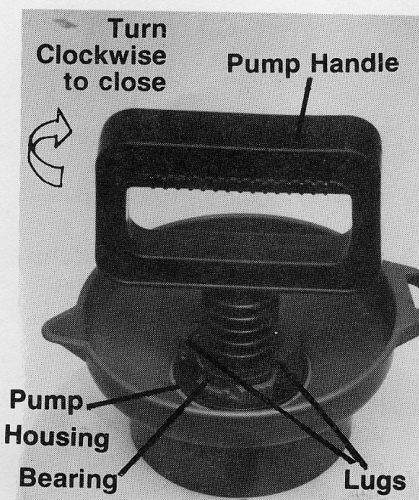

Fig. 7
D. Replace Pump and engage Pump Handle with lugs on Pump Housing, turning clockwise (see Fig. 7). Do not overtighten.